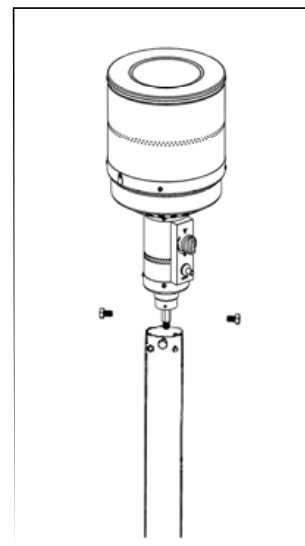

Figure 6
E. Fasten heater head (with hose now attached and leak-tested) to the top of pole. Tighten securely using 4 pcs M6X10 (Figure 6). Do not remove any bolts.